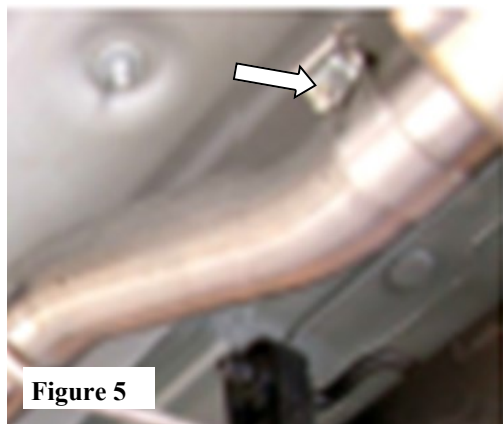

Figure 5
2. Place a clamp over the expanded end of the muffler assembly and set it into position. (See Fig. 5) Do Not tighten the clamp.